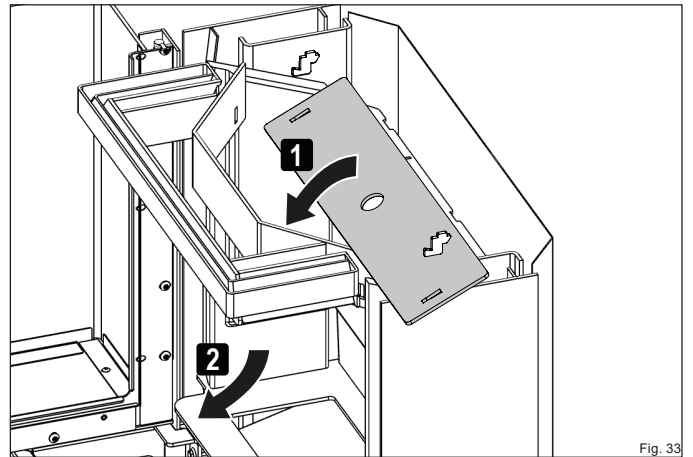

Fig. 33
- ▶ Turn the below baffle plate and remove it (Fig. 33).